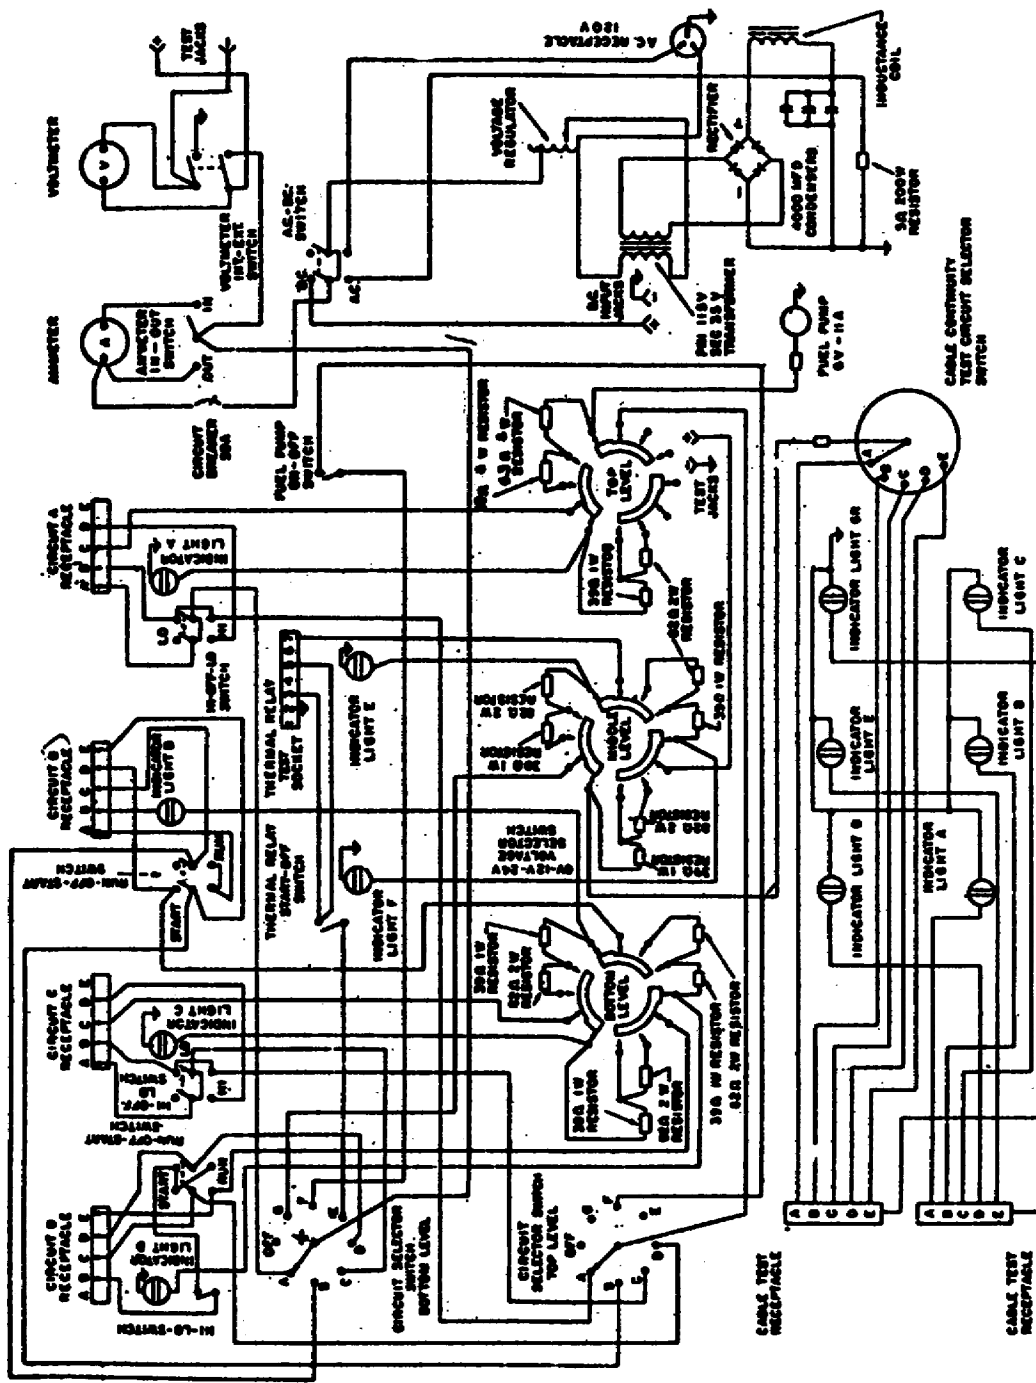

Figure 13. Test set schematic wiring diagram.
d. Testing of the test set is accomplished by organizational maintenance personnel utilizing the procedures listed below, the schematic wiring diagram (fig 13), and the troubleshooting chart (fig 14). Satisfactory completion of the procedures insures proper operation of the test set.
- (1) Place all test set panel ON-OFF switches in OFF positions.
- (2) Connect the test set to a 120-volt, AC, 60-hertz, power supply.